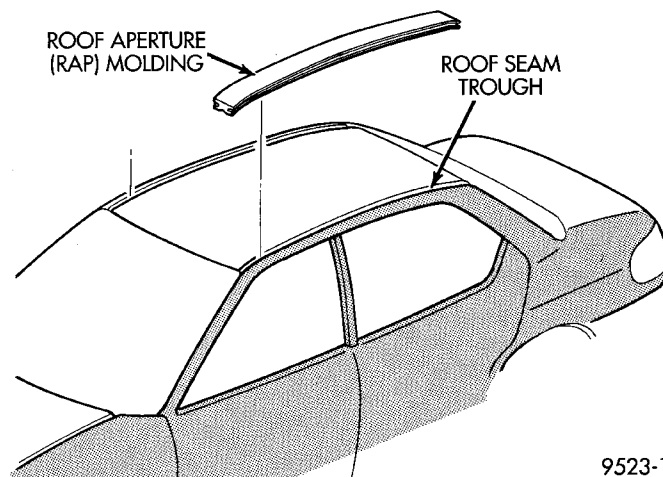

Fig. 81 RAP Molding
- (1) Using a sharpened trim stick, scrape urethane bonding material from the roof seam trough.
- (2) Using touch-up paint, repair scratches in roof seam trough to prevent corrosion.
- (3) Inspect the bottom of the roof seam trough for gaps in caulking. Repair gaps with suitable seam sealer following manufacturers instructions.
- (4) Apply black-out primer to bottom of roof seam trough. Allow at least three minutes before bonding is applied.
- (5) Install RAP molding into the roof seam trough and position molding so both ends are covered by the glass moldings. If the molding will not lay flat on the bottom of the trough, trim the ends of the molding until proper fit achieved.
- (6) Using a suitable marking pencil, mark an index line across the RAP molding and the adjacent surfaces.
- (7) Remove the RAP molding from the roof seam trough.
- (8) Apply a 5 mm (0.2 in.) bead of urethane adhesive on the bottom/center of the trough along the entire length.
- (9) Place RAP molding in position in roof seam trough (Fig. 81).
- (10) Insert both ends of RAP molding under glass moldings.
- (11) Align index marks across trough and molding.
- (12) Gently press RAP molding into urethane adhesive until molding lays smooth and flat.
(13) Remove protective tape from around the RAP molding.
(14) Clean excess urethane from exterior with Mopar, Super Clean or equivalent.
(15) Apply a length of 50 mm (2 in.) masking tape over the RAP molding to retain the molding until the urethane adhesive is cured. Curing time for most urethane adhesive is at least 24 hours.